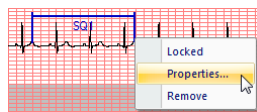

Figure 321 – Marker context menu
3. To edit the measurement properties, select the **Properties...** item in the displayed context menu (see Figure 321).